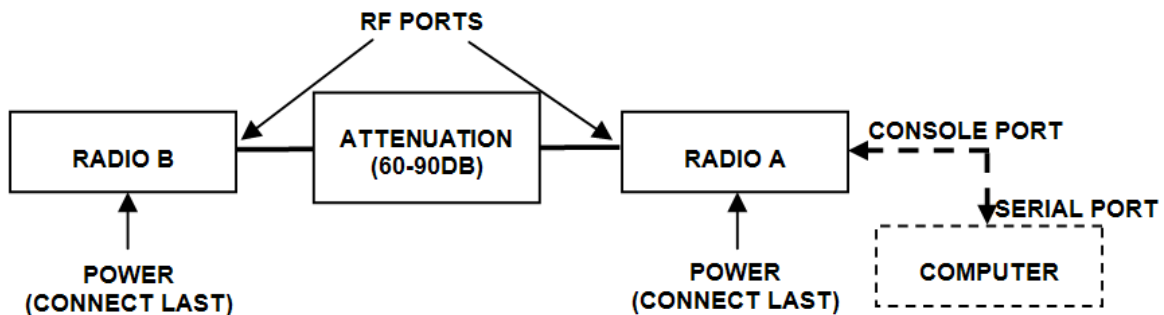

Figure 64 Basic back-to-back bench test configuration
- 1 Connect attenuation and (known-good) RF cable(s) between radio pair, shown in Figure 64.
Connect the system as shown in Figure 64, using the combination of fixed and variable attenuation between the radio's RF ports. Connect the volt meter to either radio's RSL test point and associated reference ground connection.